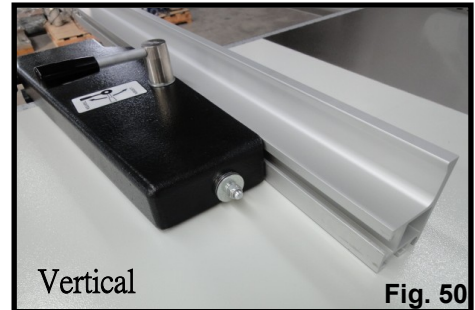
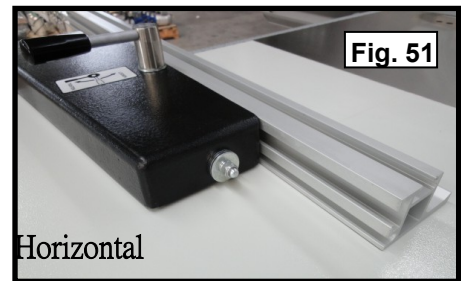

Fig. 50
Fig. 51
3. Place the fence in the vertical position (Fig. 50) for larger workpiece, or in the horizontal position (Fig. 51) for angled cuts and for small workpiece.